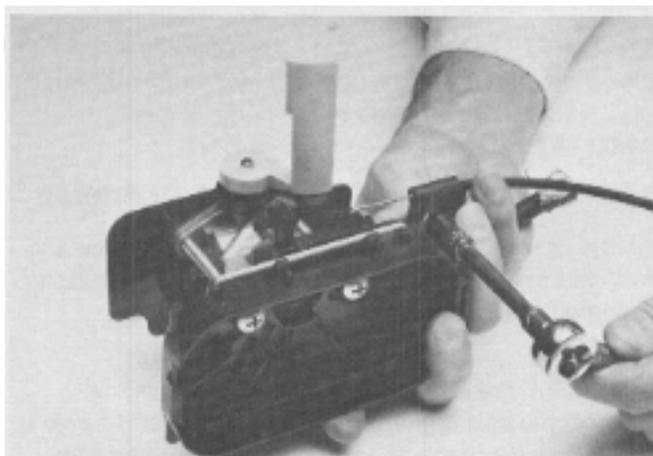

Figure 14
7. Remove the throttle cable screw and nut and disconnect the cable from the control lever (**Figure 14**).